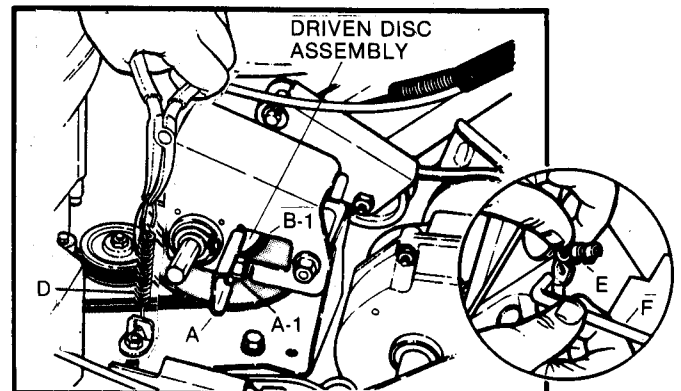

FIG. 14 -DRIVEN DISC ASSEMBLY
- ☐ Grease on drive disc (C)-causing slippage.
- ☐ Broken or disconnected DRIVE SPRING (D) (also refer to FIG. 14).
- ☐ Driven disc rubber ring (B-1) worn - not contacting drive disc (C) properly.
- ☐ Driven disc (B) out of adjustment
DRIVEN DISC REPLACEMENT: If the driven disc rubber ring (B-1) is found to be badly chunked or worn down to within 1/16" of the metal rim of the driven disc hub (B), it must be replaced. Remove the clip (E) at end of speed control rod, and then turn the transfer rod (F) to a upright (vertical) position and detach from the connector (A) (FIG. 14 & 15). Unhook drive spring (D) (use needle nose pliers) and slide the driven disc assembly off hex-shaft.